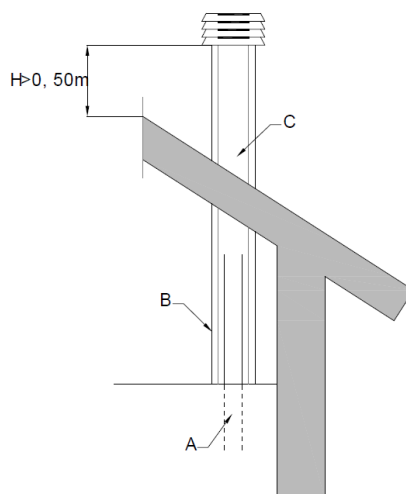

Figure 2.6: An example of connection to the chimney
In the case of the exhaust ducts of greater radius, there must be a steel pipe (A) within the funnel bricks or mortar (C), as shown in Figure 2.6.